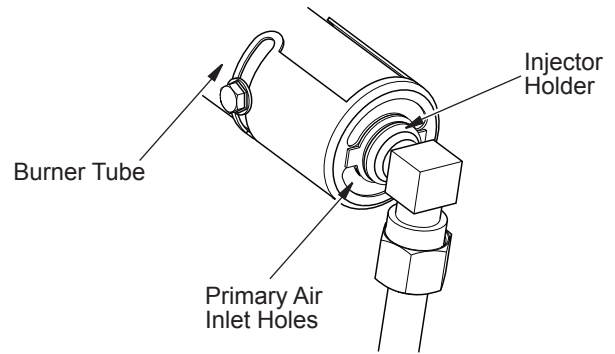

Figure 31 - Injector Holder On Outlet Burner Tube
2. Inspect burner, and primary air inlet holes on injector holder for dust and dirt (see Figure 31).